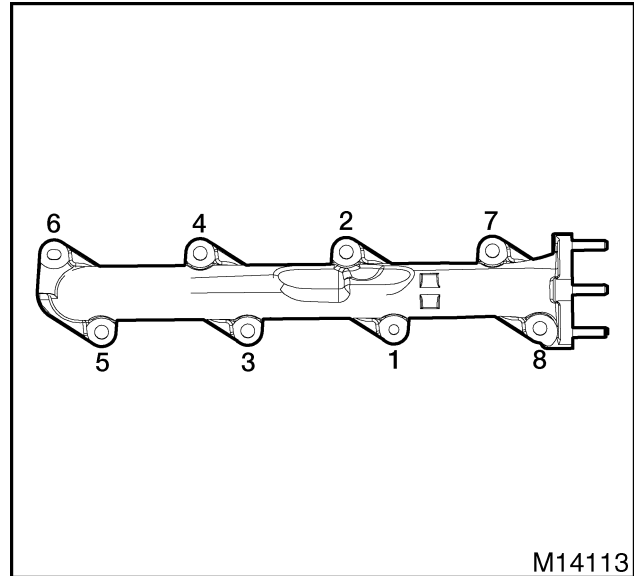

Figure 297 Torque sequence for left exhaust manifold mounting bolts
2. Install four new M8 x 40 exhaust manifold bolts and four new M8 x 40 exhaust manifold stud bolts. Tighten bolts and stud bolts to special torque (page 184) following sequence (Figure 297). Retighten bolts and stud bolts to special torque (page 184) using same sequence (Figure 297).